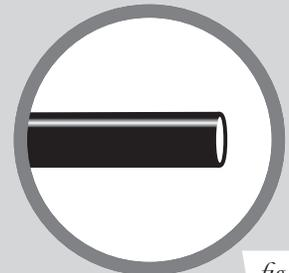

fig. 1
1. Measure the distance from the Schrader valve location inboard, along the frame rail to the air spring. Measure the same distance from each of the pre-installed Schrader valves on the hose and cut hose off squarely (Fig. 1).
When cutting air lines, use a sharp knife or a hose cutter and make clean, square cuts (Fig. 1). Do not use scissors or wire cutters because these tools may deform the air line, causing it to leak around fittings. Do not cut the lines at an angle.